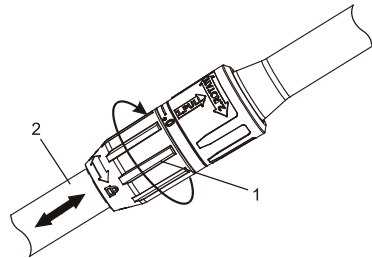

Fig. 7
1. Rotate the telescoping shaft locking collar (1) clockwise one turn (Fig. 7).
2. Slide the lower section of the telescoping shaft (2) in or out until the desired shaft length is achieved.